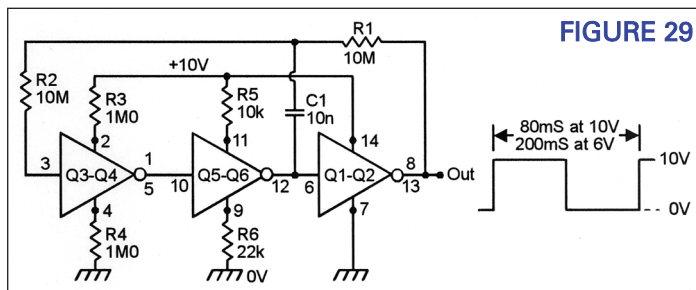

FIGURE 29
The running current of the 4007UB astable can be greatly reduced by operating its first two stages in the 'micropower' mode, as shown in Figure 29. This technique is of special value in low-frequency operation, and the Figure 29 circuit, in fact, consumes a mere 1.5μA at 6V or 8μA at 10V, these figures being far lower than those obtainable from any other IC in the CMOS range. The frequency stability of the Figure 29 circuit is not, however, very good, the period varying from 200 mS at 6V to 80 mS at 10V.
■ FIGURE 29. THIS MICROPOWER RING-OF-THREE SYMMETRICAL 4007UB ASTABLE CONSUMES 1.5 μ A AT 6V, 8 μ A AT 10V.